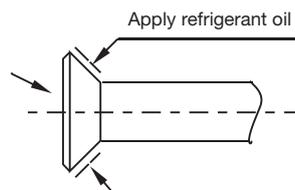

Fig.6-1
- b. Before screwing up the flared nut, apply refrigerant oil at the outer surface of the pipeline flare and the taper surface of the connection nut. Screw up the nut for 3-4 circles beforehand (see Fig.6-1).